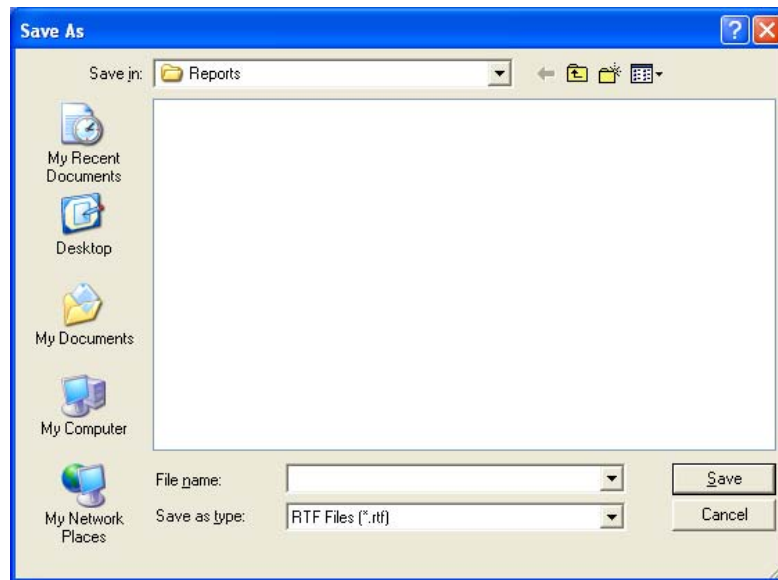

Figure 7-29
- To save the report on the screen, click the **Save to File** button or press *Alt+S*. The Save As box appears as shown in Figure 7-29. Reports are saved as rich text format file (.rtf file) in Captus3000\_2\Reports\ folder by default. These files can be opened using WordPad or Microsoft Word.